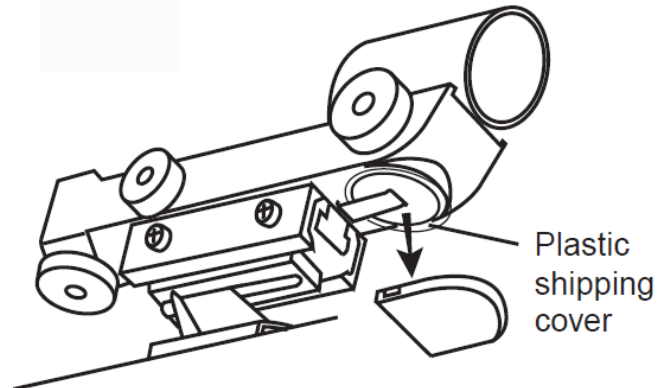

Fig.24
- Check if the plastic strip protecting the new battery has been removed. The battery is located under a cover. This location can differ in different red dot finder models (fig.24).